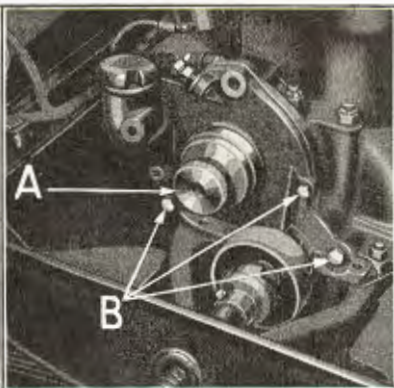

Fig. 279
- 468** To check alignment of front cover with camshaft, place a cylinder front cover gauge into recess in cover provided for commutator case (See "A" Fig. 279). With the gauge in position insert and tightly draw down the three cap screws "B", which hold cover to cylinder. The gauge is then removed and the remaining cap screws, and bolts which hold cover to crankcase and cylinder are entered and drawn down tightly. After assembly is completed it is advisable to again insert gauge into recess to make sure that front cover has not been forced out of alignment in drawing down the cylinder cover to crankcase bolts.